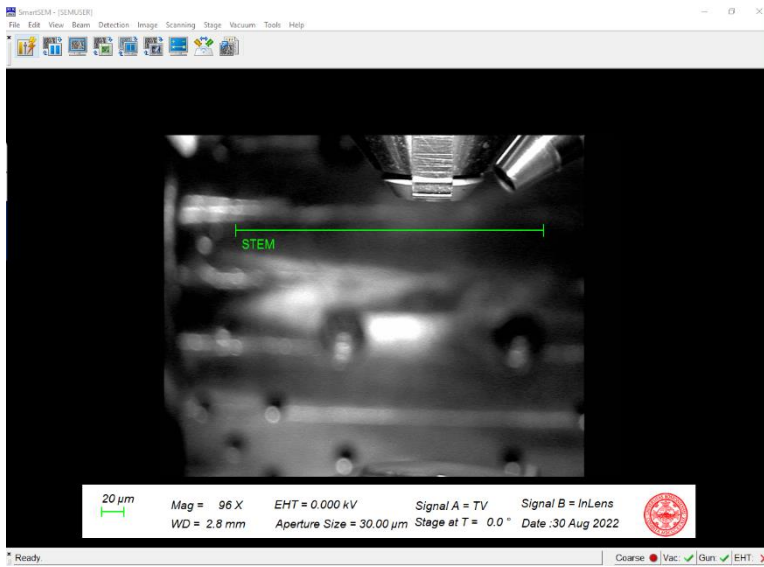

Figure 4
- **ZEISS smart SEM user interface window** appears (**Figure 4**)